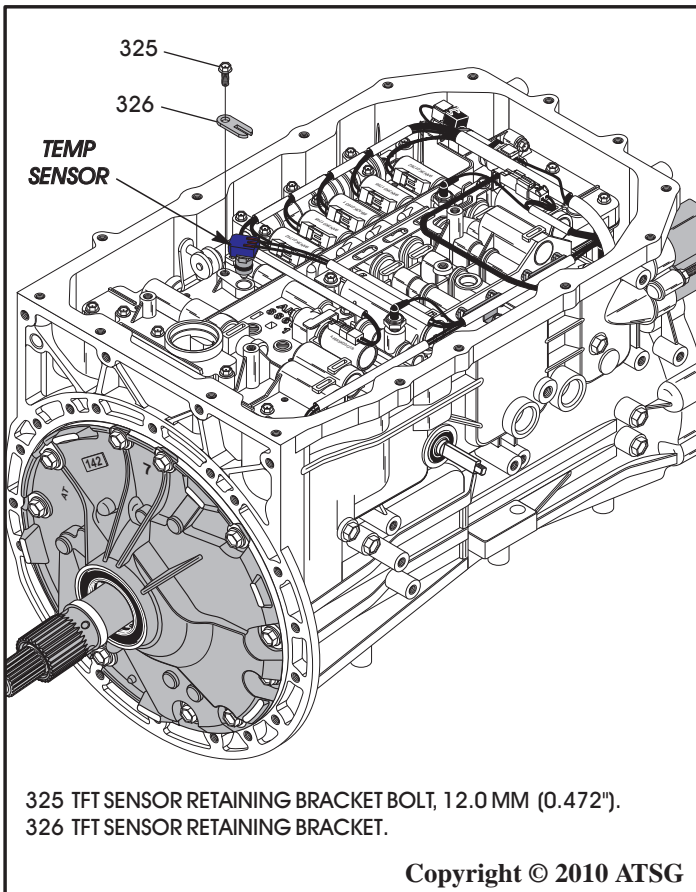

Figure 234
61. Install transmission temp sensor into valve body, as shown in Figure 234, install retaining bracket and torque to 11 N·m (97 in.lb.).